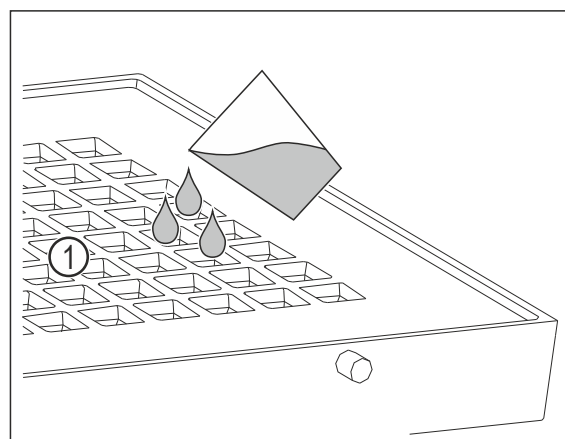

Fig. 93
- Fill in water no more than 400 ml (13.53 oz) over the holes Fig. 93 (1) in the cover.